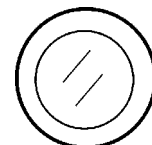

Figure 43. Pre-Heat Button
7. Press and hold the **pre-heat button** (Figure 43) for at least 5 seconds to warm the engine glow plugs. (manual mode only).